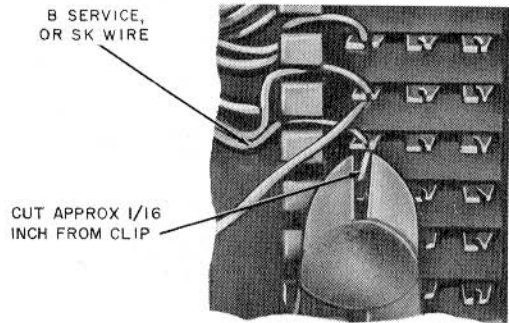

Fig. 7—Cutting B Service or SK Station Wire
- (1) Perform Steps (1), (2), and (3) of paragraph 3.05.
- (2) Cut the wire with diagonal pliers, allowing for approximately 1/16-inch of wire to protrude through terminal (Fig. 7).